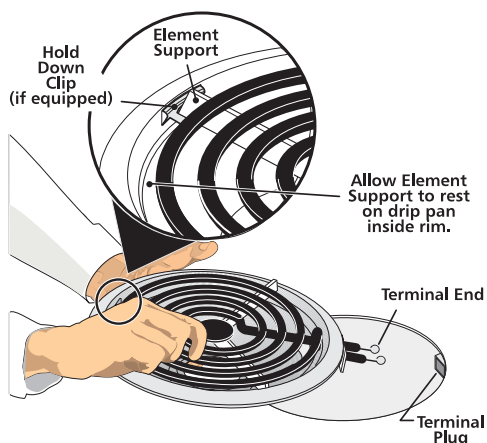

Figure 28: Removing surface elements and drip bowls
2. While holding the drip bowl and surface element, gently pull the terminal end out from terminal plug (Figure 28).
1. Slide the terminal end on the surface element through the opening in the drip bowl (Figure 28).
3. After the surface element is positioned in the drip bowl, line up the terminal end with the terminal plug as shown (Figure 28).